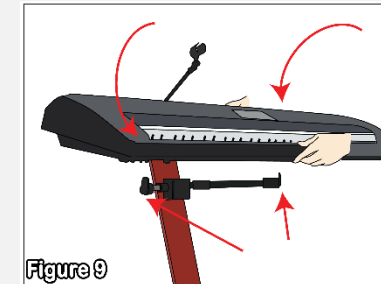

Figure 9
Step 6 – As shown in Figure 9, you can now place your equipment on the mounts. These mounts have lips that will secure your equipment from falling and rubber resting pads to keep your equipment from being scratched against the metal mount.